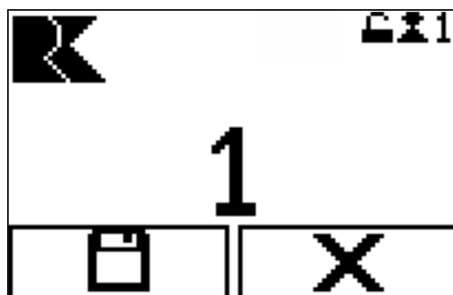

Fig. 117: Storing memory positions
2. → Select the memory position (1 – 7, Fig. 117) to which the current drive position is saved.